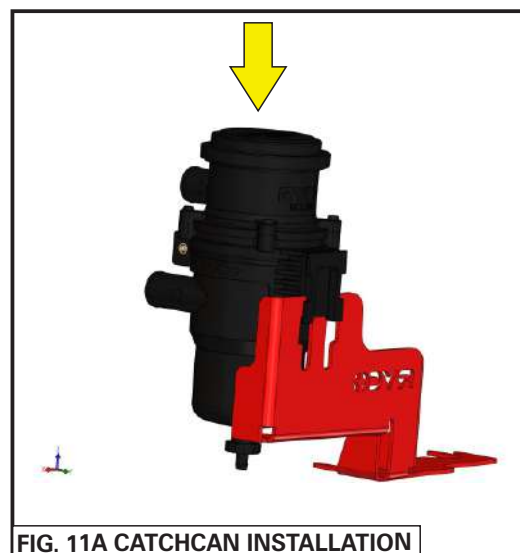

FIG. 11A CATCHCAN INSTALLATION
4. Slot RCC351 into FB9805CC bracket as shown in FIG. 11A.